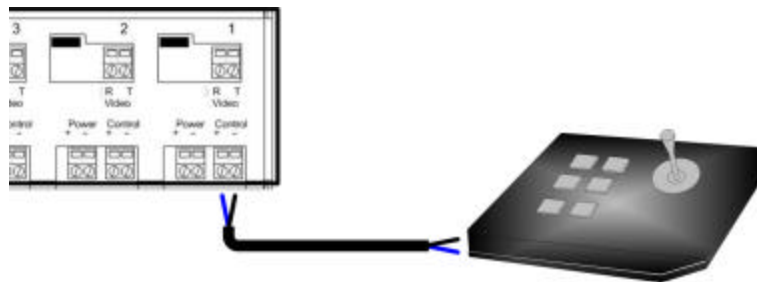

Figure 10: PTZ connection, Model IC562A
10. If PTZ Control is to be transmitted to the camera, verify that the distance between the camera and the hub is within the distance specifications for sending PTZ control over twisted pair. Consult the PTZ equipment vendor for maximum distances. Please ensure that the port switch is set to Pass-Thru Mode (IC452A). When the port switch is set to Pass-Thru Mode (IC452A), one (1) twisted pair is used for PTZ control. For optimum results, it is recommended to use control protocols such as RS-422, RS-485 or Bi-phase. **Due to crosstalk issues, RS-232 is not recommended.**
11. Connect two (2) wires between the PTZ controller and the “Control” terminals on the hub (fig 10).